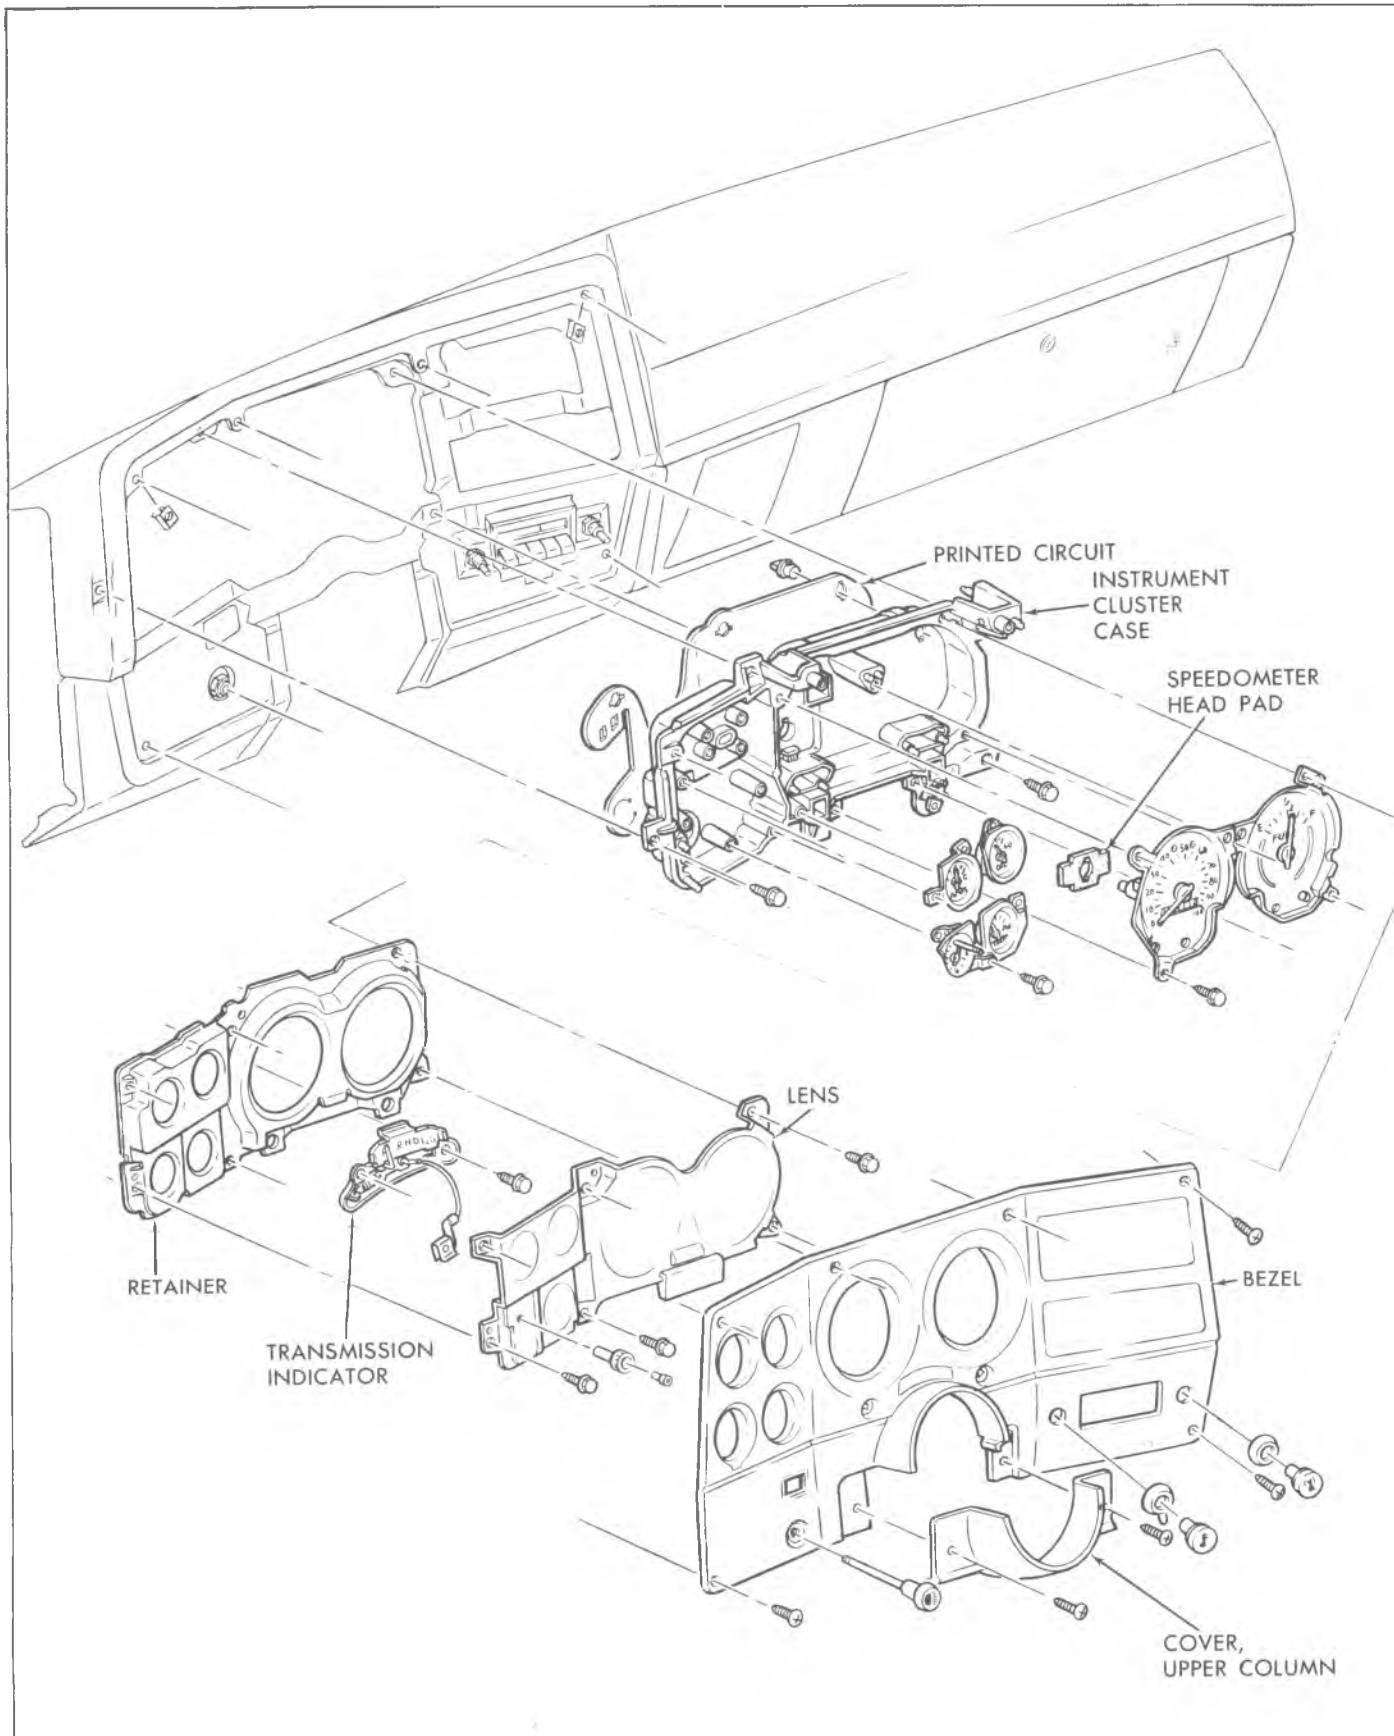

Fig. 14--Instrument Cluster Assembly (C-K Models)
##### Replacement (Fig. 14)
**INDICATOR AND ILLUMINATING BULBS****All Models****Replacement (Figs. 14 and 15)**